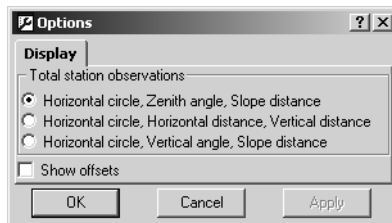

Figure 4-41. TS Options
2. On the *Options* dialog box and *Display* tab, select the desired display appearance of the Total Station Observations data (Figure 4-41).